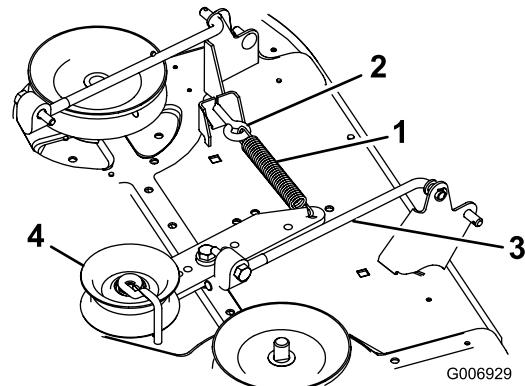

Figure 44
16. Hook the idler spring from the idler pulley arm to the eye-bolt on the mower (Figure 44).